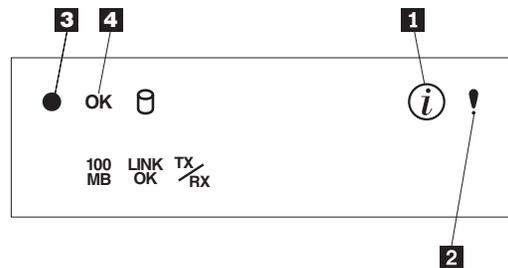

Figure 12. Locations of the Information LED, System Error LED, POST Complete (OK) LED, and Power-on LED
Complete the installation by switching on the appliance and running the power-on diagnostics. Each time the appliance is switched on, it runs a self-testing program to ensure that it is running correctly. See Figure 12 for the locations of the Information LED, System Error LED, POST Complete (OK) LED, and Power-on LED.